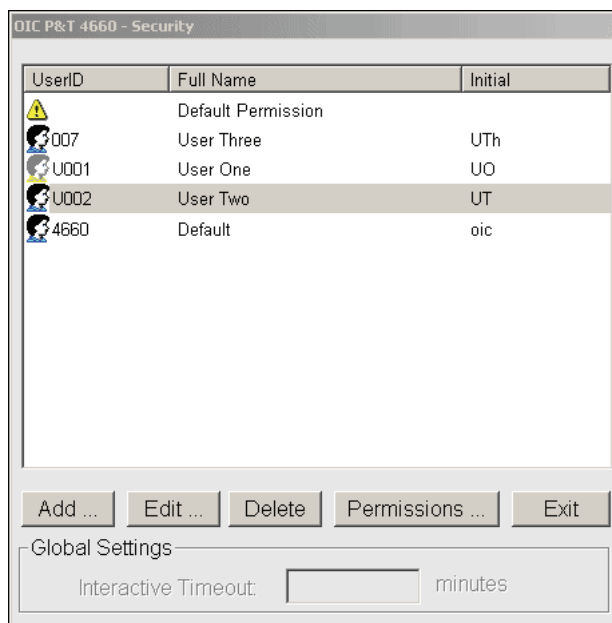

Figure 3.6. OIC P&T 4660 – Security dialog box
- d. Press **OK**. The OIC P&T 4660 – Security dialog box appears (Figure 3.6).